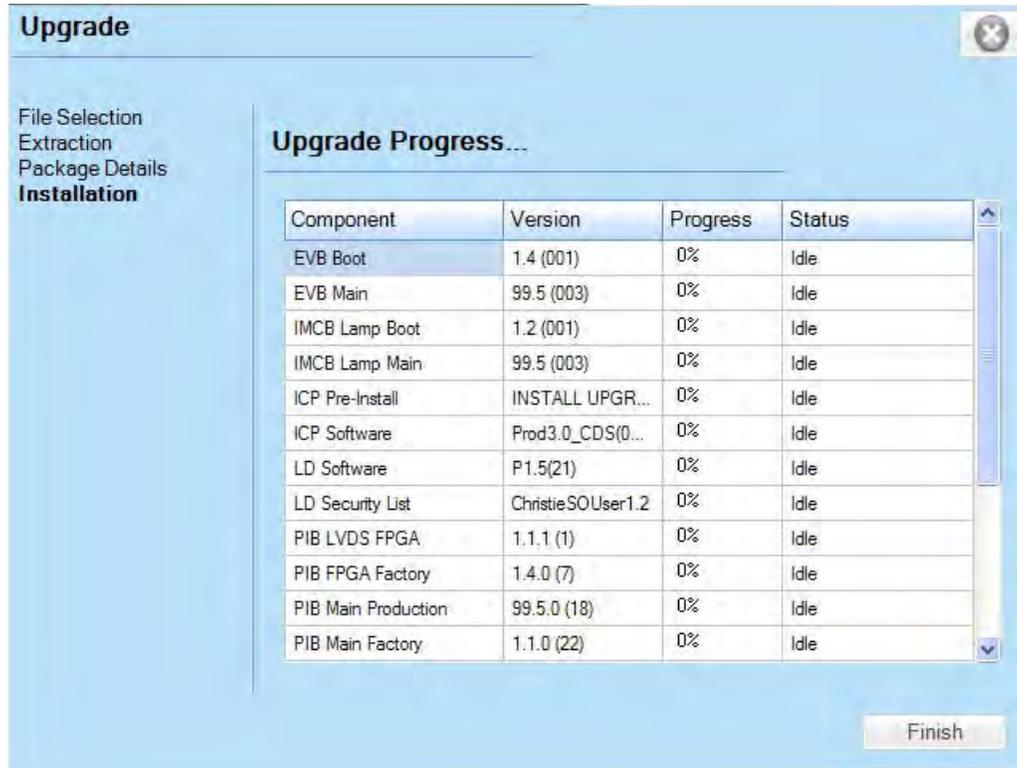

Figure 3-18 Upgrade: Installation Window
5. The **Installation** window displays the state of the upgrade progress. (Figure 3-18). On successful completion or failure of the installation, a dialog will display indicating the state of the upgrade. Touch the **OK** button. At this point, the TPC will reboot in order to install the TPC user interface software. The TPC will shut down, reboot, and display an install progress window as the user interface is installed. Once complete, touch the **Finish** button to return to the **Main** panel.